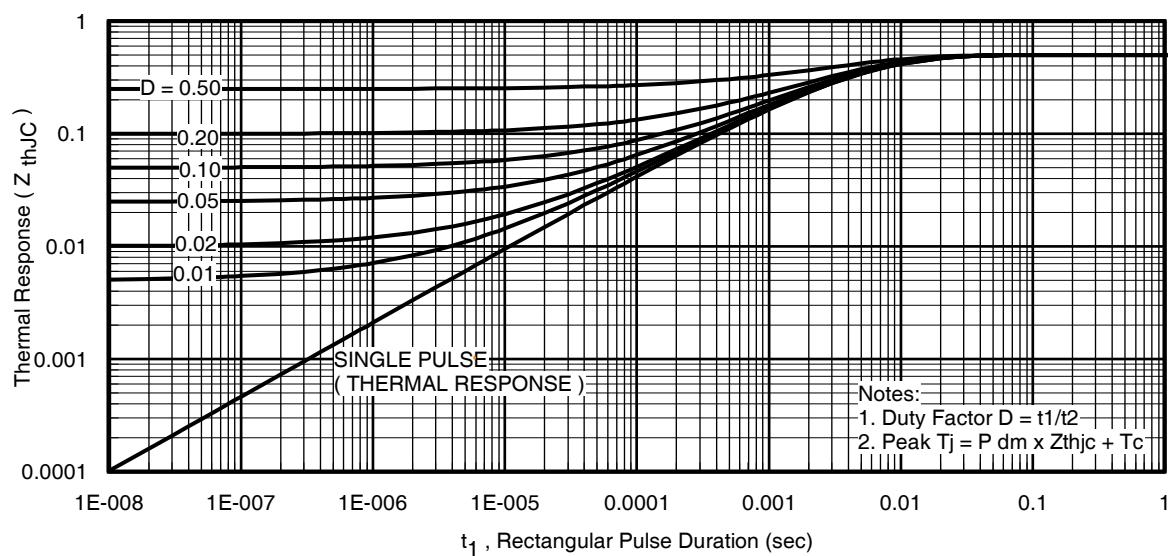
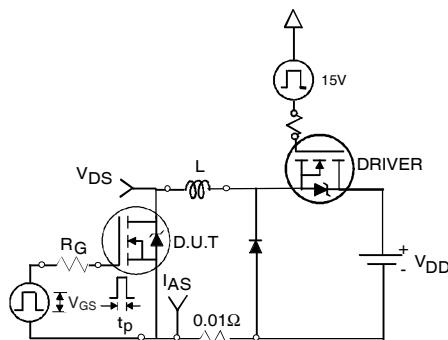

Fig 11. Maximum Effective Transient Thermal Impedance, Junction-to-Case
Fig 12a. Unclamped Inductive Test Circuit
- ① Repetitive rating; pulse width limited by max. junction temperature. (See fig. 11).
- ② Limited by $T_{J\text{max}}$, starting $T_J = 25^\circ\text{C}$, $L=0.24\text{mH}$, $R_G = 25\Omega$, $I_{AS} = 75\text{A}$, $V_{GS} = 10V$. Part not recommended for use above this value.
- ③ $I_{SD} \leq 75\text{A}$, $di/dt \leq 220\text{A}/\mu\text{s}$, $V_{DD} \leq V_{(\text{BR})\text{DSS}}$, $T_J \leq 175^\circ\text{C}$.
- ④ Pulse width $\leq 1.0\text{ms}$; duty cycle $\leq 2\%$.
- ⑤ $C_{oss \text{ eff.}}$ is a fixed capacitance that gives the same charging time as C_{oss} while V_{DS} is rising from 0 to 80% V_{DSS} .
- ⑥ Limited by $T_{J\text{max}}$, see Fig.12a, 12b, 15, 16 for typical repetitive avalanche performance.
- ⑦ This value determined from sample failure population. 100% tested to this value in production.
- ⑧ This is applied to D²Pak, when mounted on 1" square PCB (FR-4 or G-10 Material). For recommended footprint and soldering techniques refer to application note #AN-994.
- ⑨ Max $R_{\text{DS(on)}}$ for D²Pak and TO-262 (SMD) devices.
- ⑩ TO-220 device will have an R_{th} value of $0.45^\circ\text{C}/\text{W}$.
3. Equation below based on circuit and waveforms shown in Figures 12a, 12b.
- Z_{thJC}(D, t_{av}) = Transient thermal resistance, see figure 11